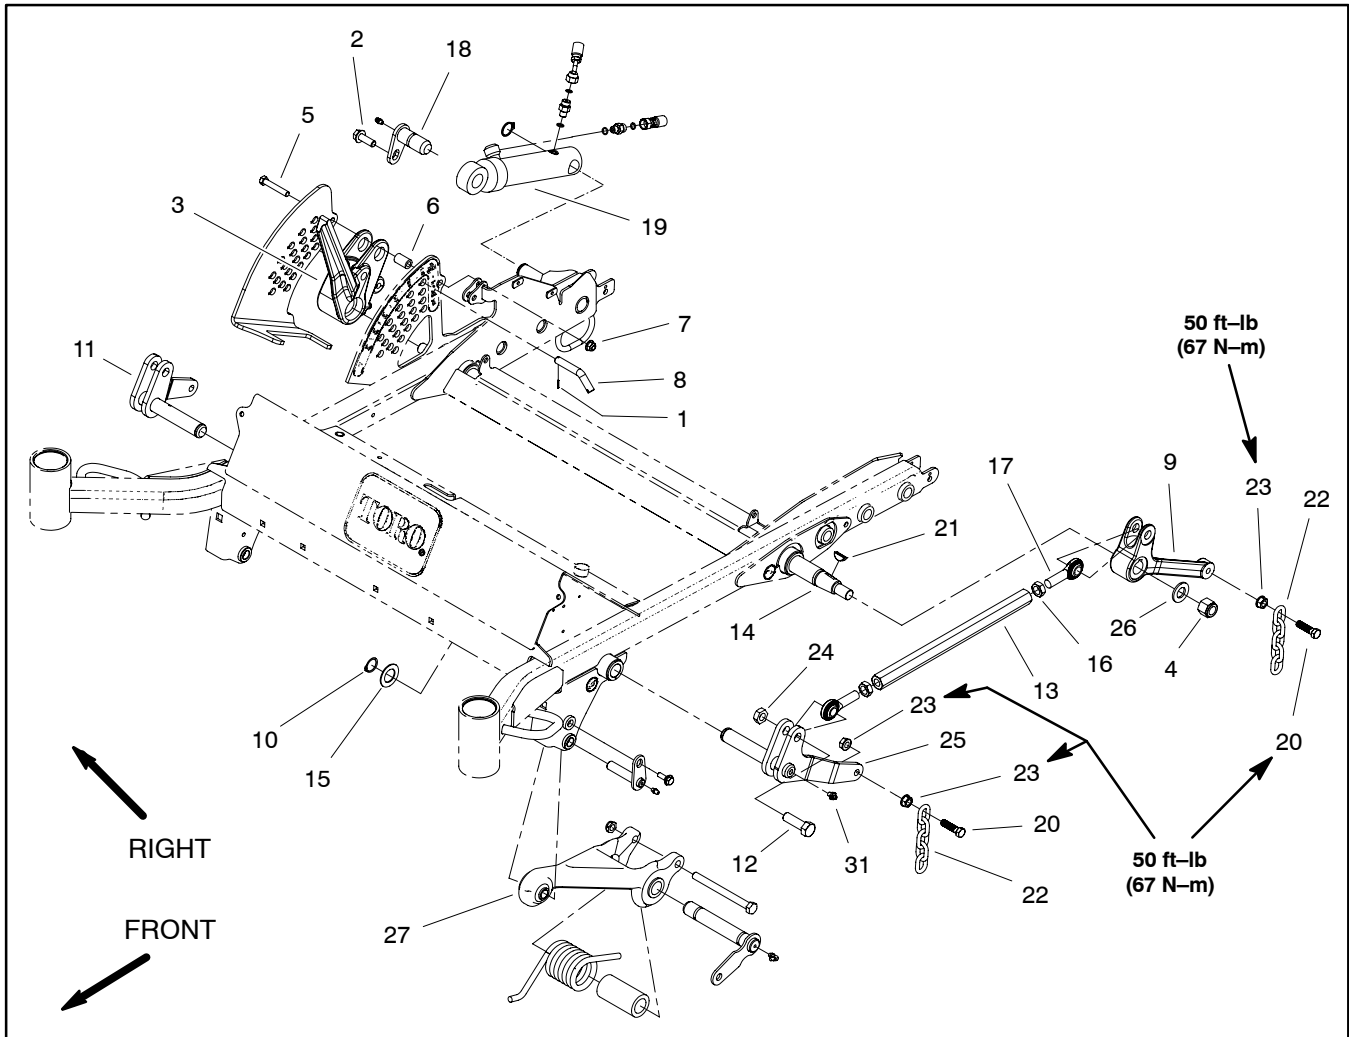

Figure 21
### Disassembly (Fig. 21)
4. Remove lift arm components as necessary using Figures 21 and 23 as guides.
**NOTE:** If pull link assembly (item 27) removal is necessary, refer to Cutting Deck Pull Links in the Service and Repairs section of Chapter 7 – Cutting Deck.
**Assembly (Fig. 21)**
2. Install lift arm components as necessary using Figures 21 and 23 as guides.